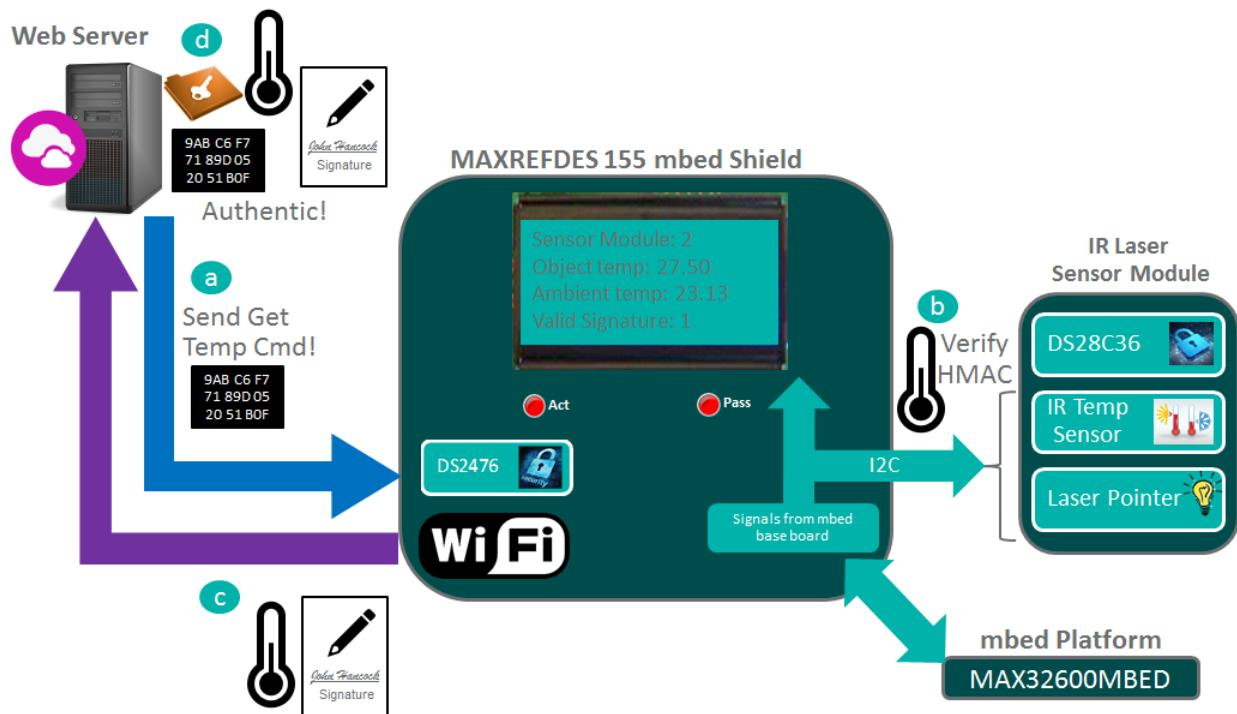

Figure 15. An illustration of Authenticated temperature readings.
| Figure 15. An illustration of Authenticated temperature readings. | 14 |
4. In summary, the **Temperature Demo** authenticates temperature each time by doing the following (**Figure 15**):